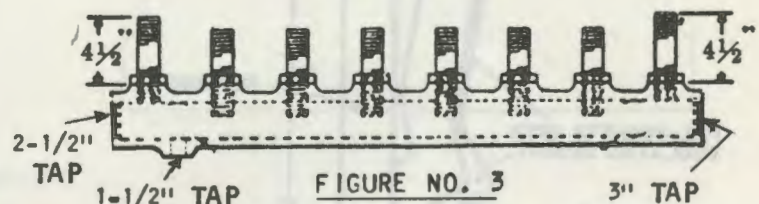

FIGURE NO. 3
2. CLEAN THE THREADS OF EACH NIPPLE TAPPING AND INSTALL NIPPLES IN THE DRUM SO THAT THE DISTANCE FROM THE DRUM TO THE END OF THE NIPPLE IS 4-1/2" FOR THE FRONT AND BACK SECTIONS. OTHER NIPPLES SHOULD BE SCREWED INTO THE DRUM AS FAR AS POSSIBLE. SEE FIGURE NO. 3.